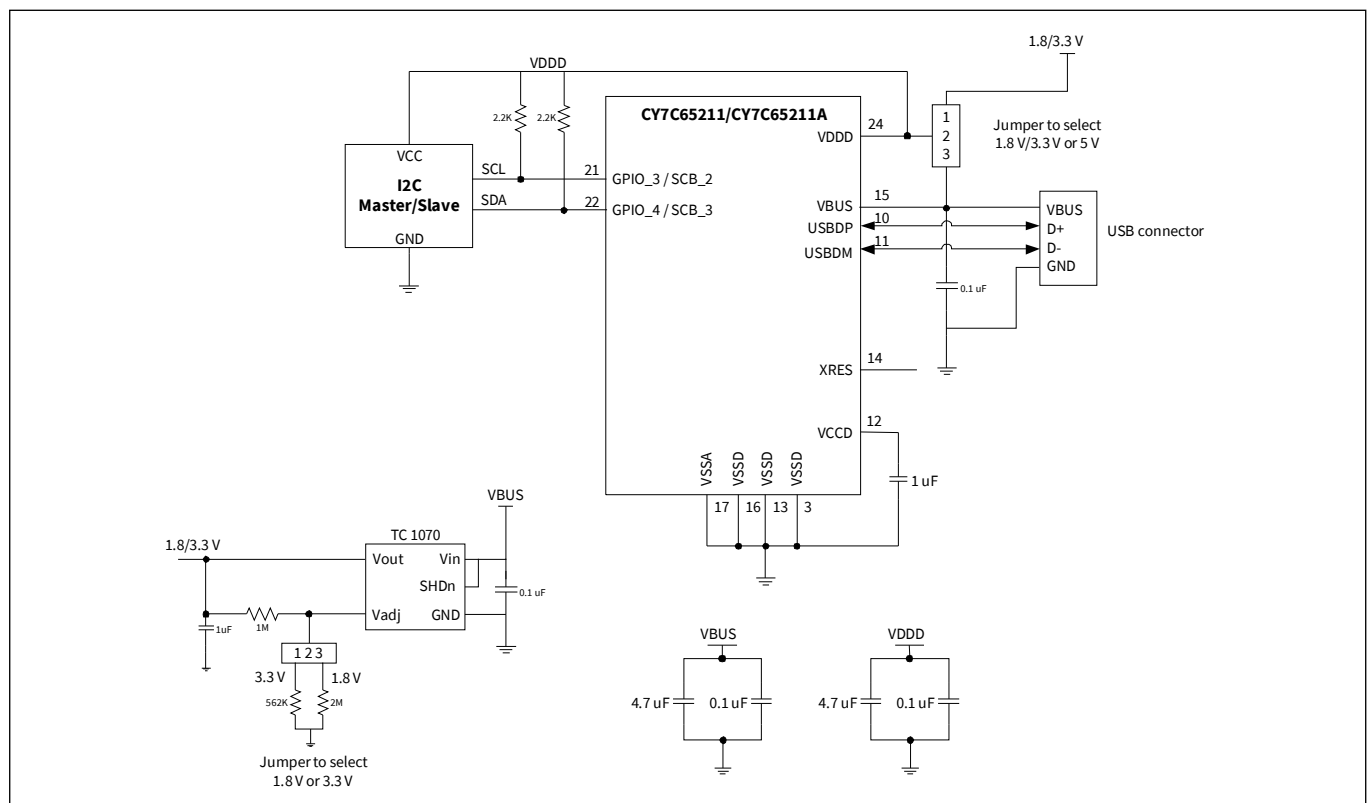

Figure 14 USB to I²C bridge
In **Figure 14**, CY7C65211 is configured as a USB to I²C bridge. The CY7C65211 I²C can be configured as a master or a slave using the configuration utility. CY7C65211 supports I²C data rates up to 100 kbps in the standard mode (SM) and 400 kbps in the fast mode (FM).